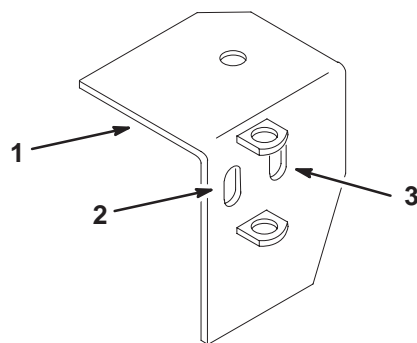

Figure 8
1. Select the proper hole in the pivot support. Refer to Figure 8 for the correct hole.